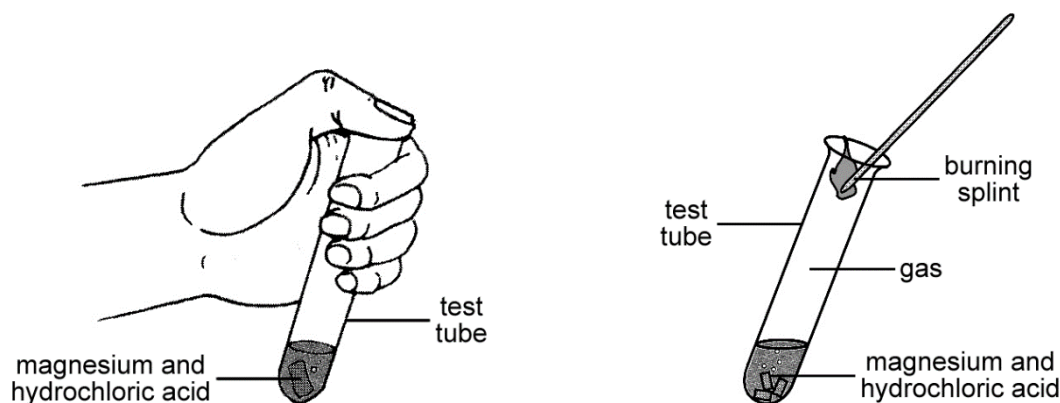

Figure 1. Testing the gas that is produced when a metal reacts with an acid.
3. Wearing gloves, place your finger or thumb over the mouth of the test tube that contains the dilute hydrochloric acid and magnesium ribbon. Wait 20 – 30 seconds until you feel the pressure of the gas that is being produced by the reaction build up. Remove your finger / thumb from the mouth of the test tube and quickly place a burning splint in the mouth of the test tube (see **Figure 1**). Record your observations in the results section.